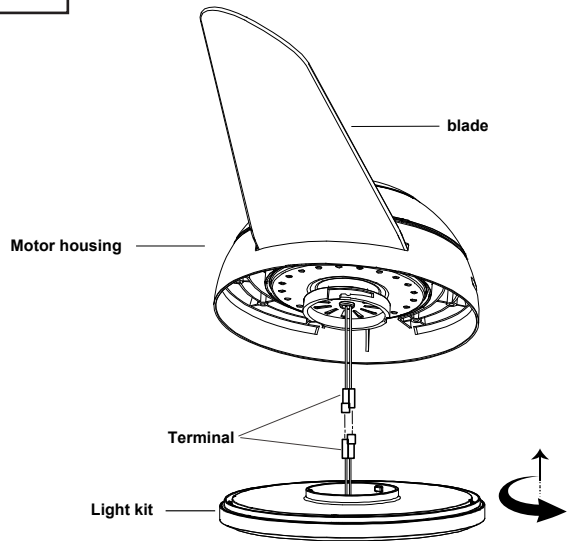

Fig.7
- Step 4 The lamp panel is connected to the wire. (Fig. 7)
- Step 5 Turn the light kit counterclockwise to lock the light kit. (Fig. 7)